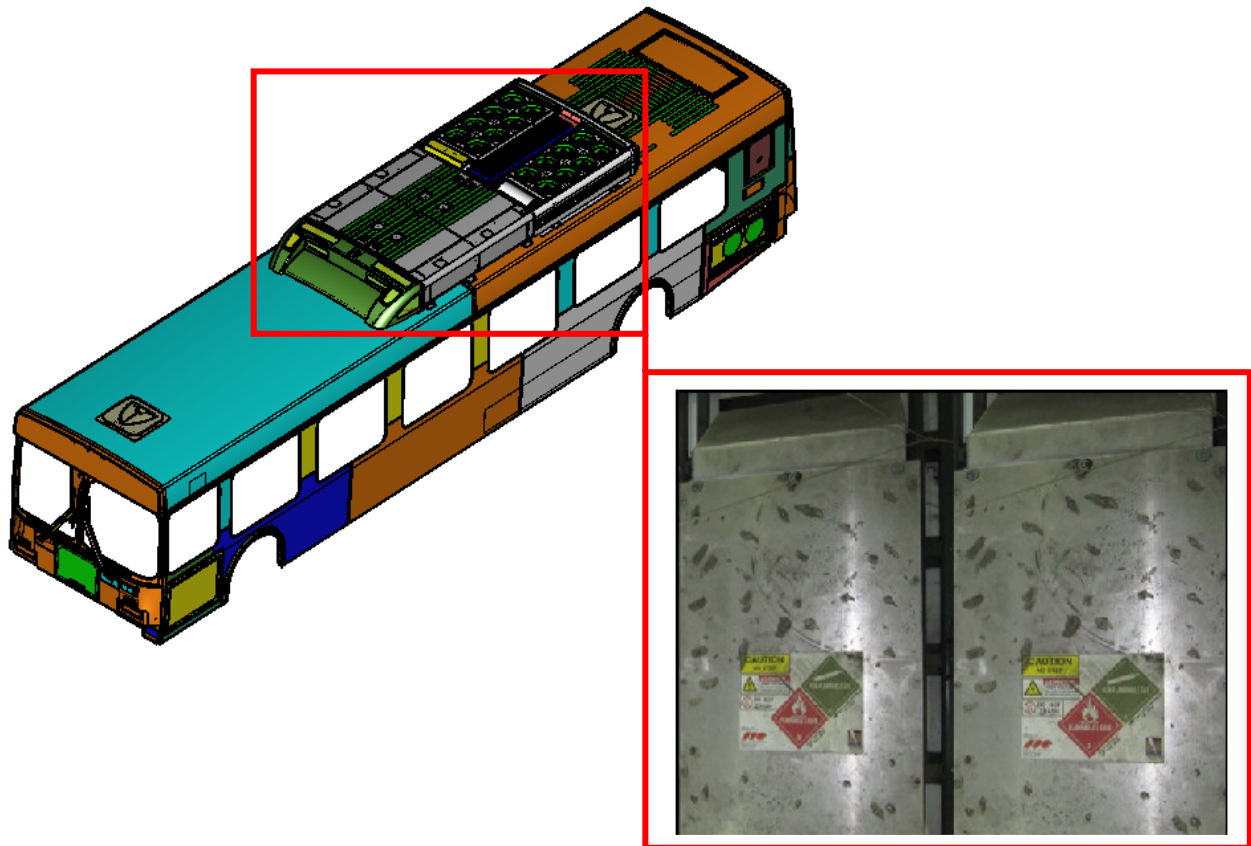

Fig 1 – SPLIT UCAP Location
- a. Open the clam shell doors on top of the bus to access the UCAP assembly. See Fig 1.